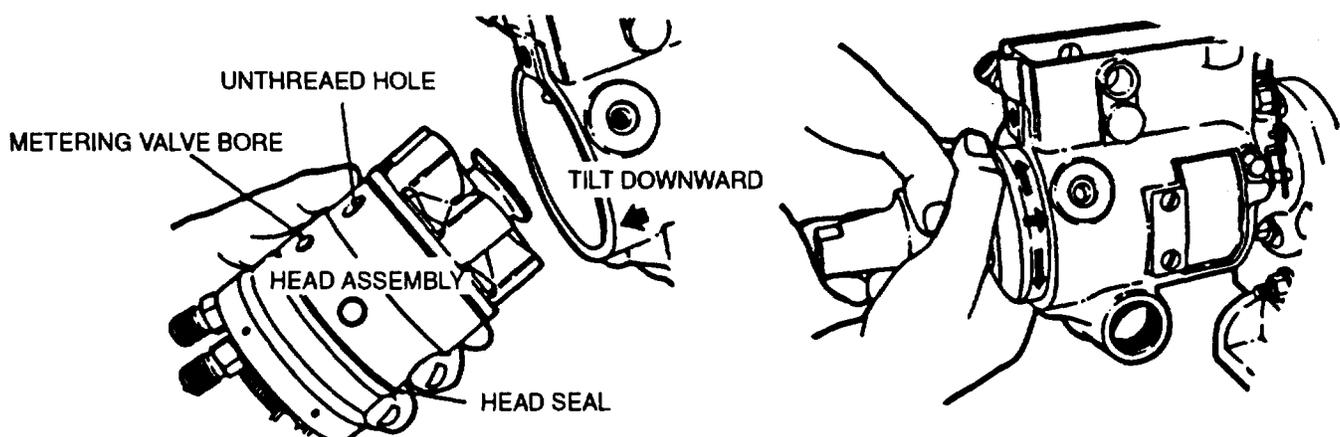

FIGURE 3-78. Inserting Hydraulic Head (Typical)
- an. Rotate cam ring (24) so threaded hole is in line with metering valve bore. This ensures proper position of cam.
- ao. Grasp hydraulic head firmly in both hands and insert it into housing bore with a slight rotary motion. Do not force. If assembly should jam during insertion, withdraw and start over, refer to FIGURE 3-78.